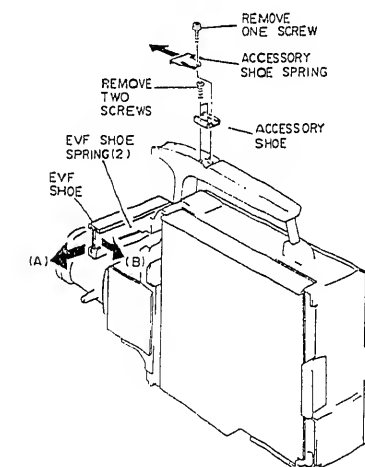

Fig. 2-4
1. Move the EVF shoe in the direction of arrow (A). (See Fig. 2-4)
2. While pulling the EVF shoe spring (2) in the direction of arrow (B), remove the EVF shoe in the direction of arrow (A).
3. Remove one (1) screw holding the accessory shoe spring.
4. Lift up the accessory shoe spring and remove the accessory shoe spring in the direction of arrow (C).
5. Remove two (2) screws holding the accessory shoe.
- Note: When reinstalling the EVF shoe, first attach the EVF shoe spring (2) to the EVF shoe.